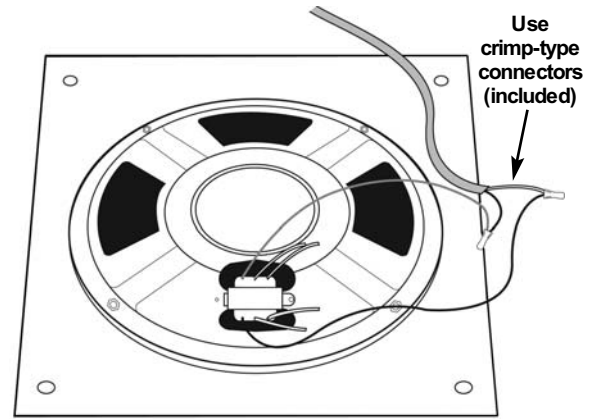

Figure 2
- Attach the speaker wires to the appropriate transformer tap wires (See **Figure 2** and chart below).